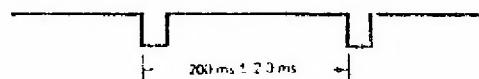

Figure 3-7 Index Sector Timing (soft sector)
3.3.2 Index/sector. Once every revolution, a pulse is transmitted to the controller indicating the beginning of a track, but only if a single hole diskette is used. If multi-hole media is used in conjunction with the index, sector pulses (10, 16) will also be transmitted to the host system. Leading edge of sector to leading edge of index is 6.25 msec \pm .07 msec for 16-sector media (see Figures 3-7 and 3-8).